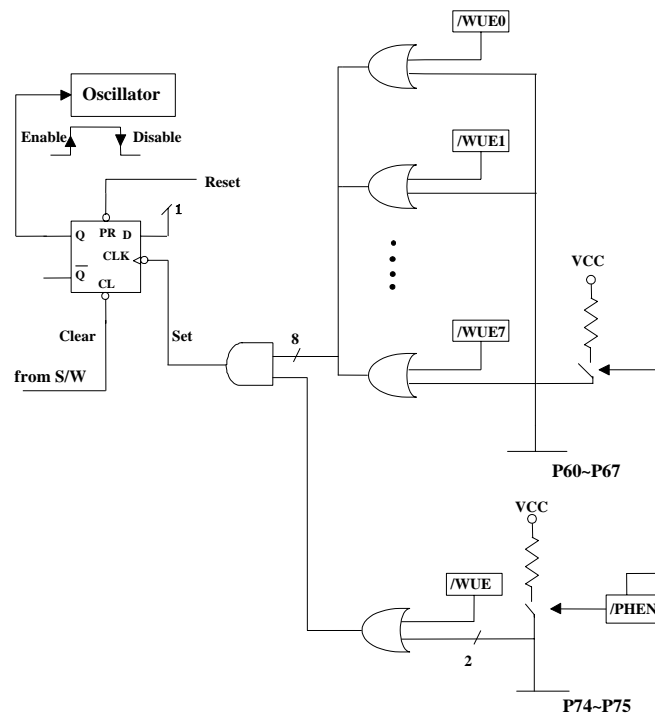

Fig. 5 Sleep Mode and Wake-Up Circuits on I/O Ports Block Diagram
**Bit 4 (SLPC)** This bit is set by hardware at the low level trigger of wake-up signal and is cleared by software. SLPC is used to control the oscillator operation. The oscillator is disabled (oscillator is stopped, and the controller enters into SLEEP2 mode) on the high-to-low transition and is enabled (controller is awakened from SLEEP2 mode) on low-to-high transition. In order to ensure the stable output of the oscillator, once the oscillator is enabled again, there is a delay for approximately 18ms1 (oscillator start-up timer, OST) before the next instruction of the program is executed. The OST is always activated by a wake-up event from sleep mode regardless of the Code Option bit ENWDT status is "0" or otherwise. After waking up, the WDT is enabled if the Code Option ENWDT is "1". The block diagram of SLEEP2 mode and wake-up invoked by an input trigger is depicted in Fig. 5. The SLPC bit can be read and written.
- (A) Any of the wake-up pins is “0” as illustrated in Figure. 5. Upon waking, the controller will continue to execute the succeeding address. Under this case, before entering SLEEP2 MODE, the wake-up function of the trigger sources (P60~P67 and P74~P75) should be selected (e.g., input pin) and enabled (e.g., pull-high, wake-up control). It should be noted that after waking up, the WDT is enabled if the Code Option bit ENWDT is “0”. The WDT operation (to be enabled or disabled) should be appropriately controlled by software after waking up.
- (B) WDT time-out (if enabled) or external reset input on /RESET pin will trigger a controller reset.